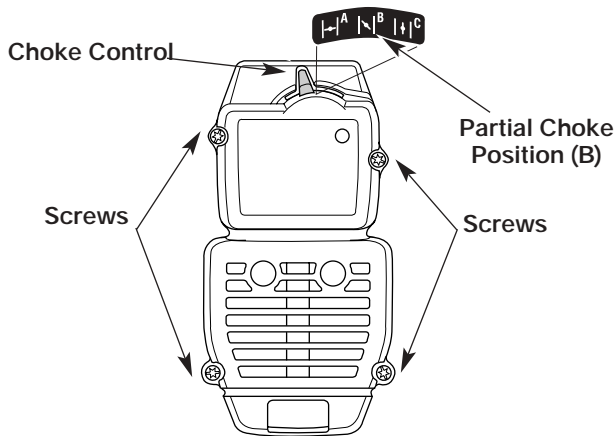

Fig. 13
1. Place the choke control in the **PARTIAL** choke position (B).
**NOTE:** The choke control must be in the **PARTIAL** choke position (B) (Fig. 13) to remove the air filter/muffler cover.
2. Remove the four (4) screws securing the air filter/muffler cover (Fig. 13). Use a flat blade or # T20 Torx bit screwdriver.
2. Insert the four (4) screws into the holes in the air filter/muffler cover (Fig. 13) and tighten. Use a flat blade or # T20 Torx bit screwdriver. Do not over tighten. Do not force.